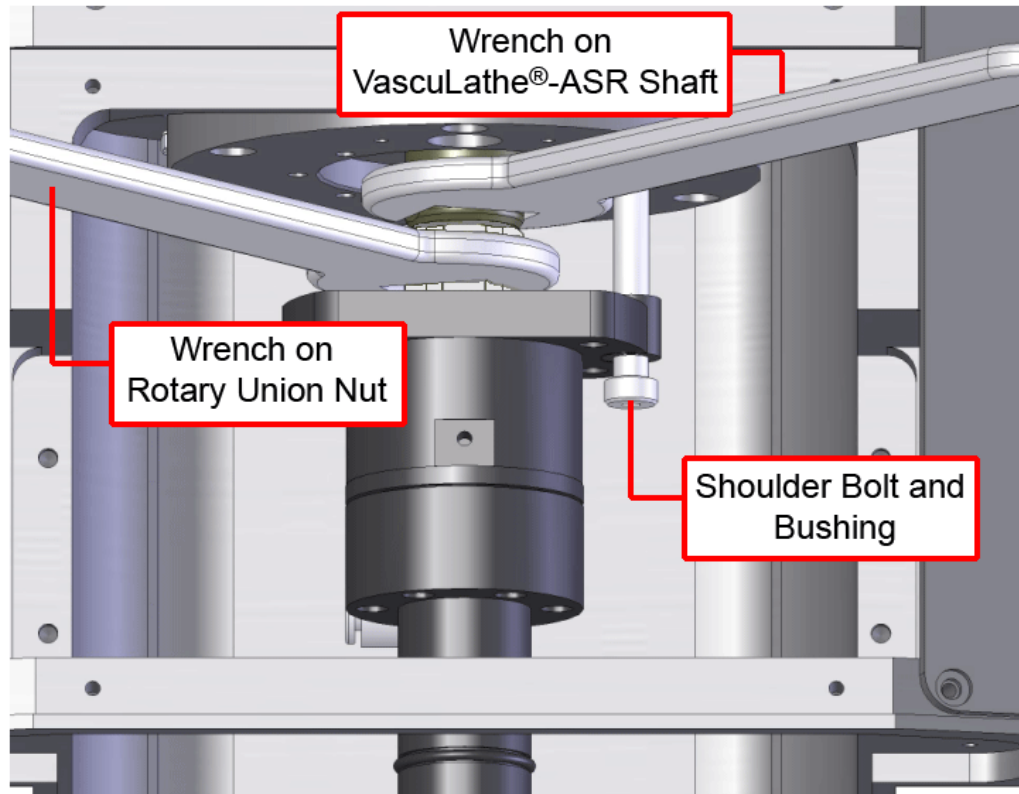

Figure 4-11: Wet Cut Rotary Union Installation
Step 3: Remove the shoulder bolt and bushing (see Figure 4-11).
Step 4: Using two 19 mm wrenches (one on the rotary union shaft nut, the other on the VascuLathe®-ASR shaft flats) coming in from the top of the carriage, unscrew the rotary union from the VascuLathe®-ASR shaft (see Figure 4-11).